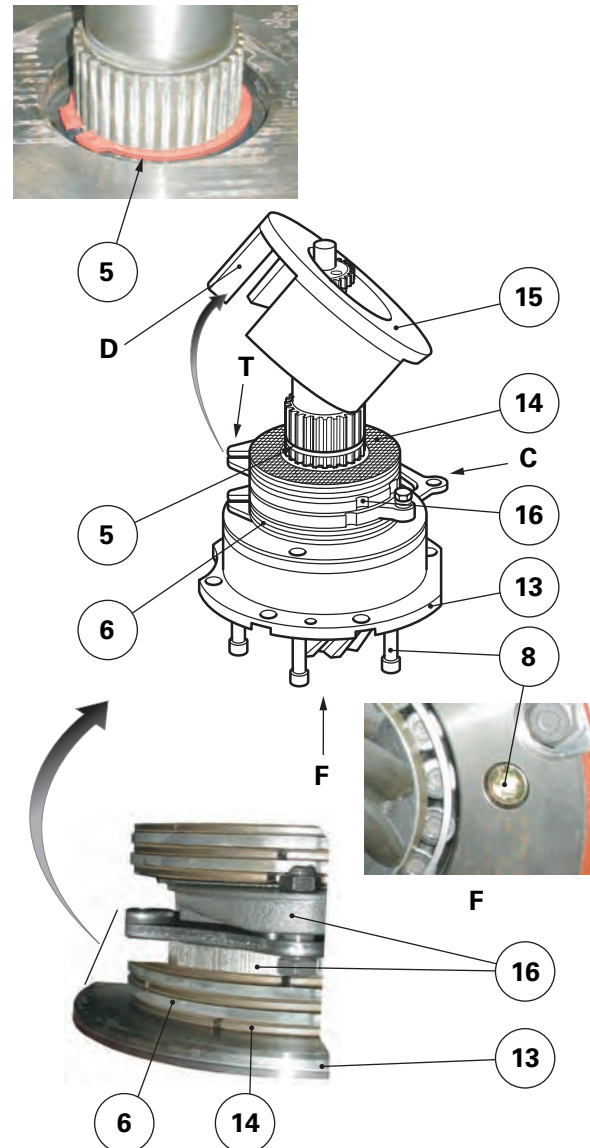

Fig. 5
Reassembly (Fig. 5)
13. Correctly position control C of the mechanism (16). Refit the mechanism by placing a set of discs (14)/intermediate plates (6) on either side of it, according to Fig. 5. Correctly align the T catches so that the fit into the D finger of the cover (15) (Fig. 5).
14. Assemble the handbrake unit (15) on the bearing carrier (13) by sliding the D finger into the T catches (Fig. 5).
15. Place circlip (5).
16. Lightly smear the thread of the screws (8) with Loctite 270 or equivalent. Tighten the screws to a torque of 120 -160 Nm.